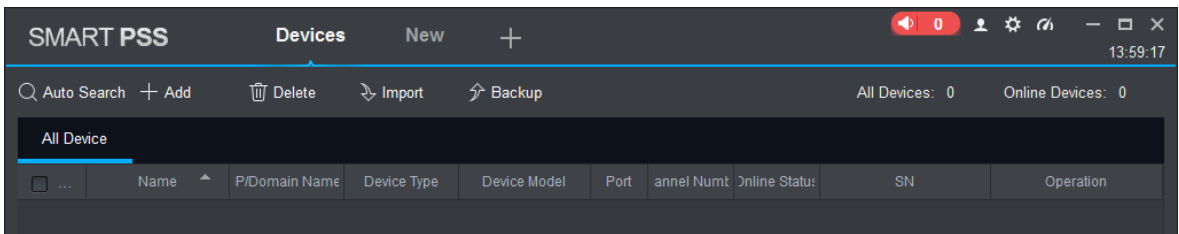

Figure 5-5
Step 1 In “Devices” interface, click “Add”, as shown in Figure 5-5.